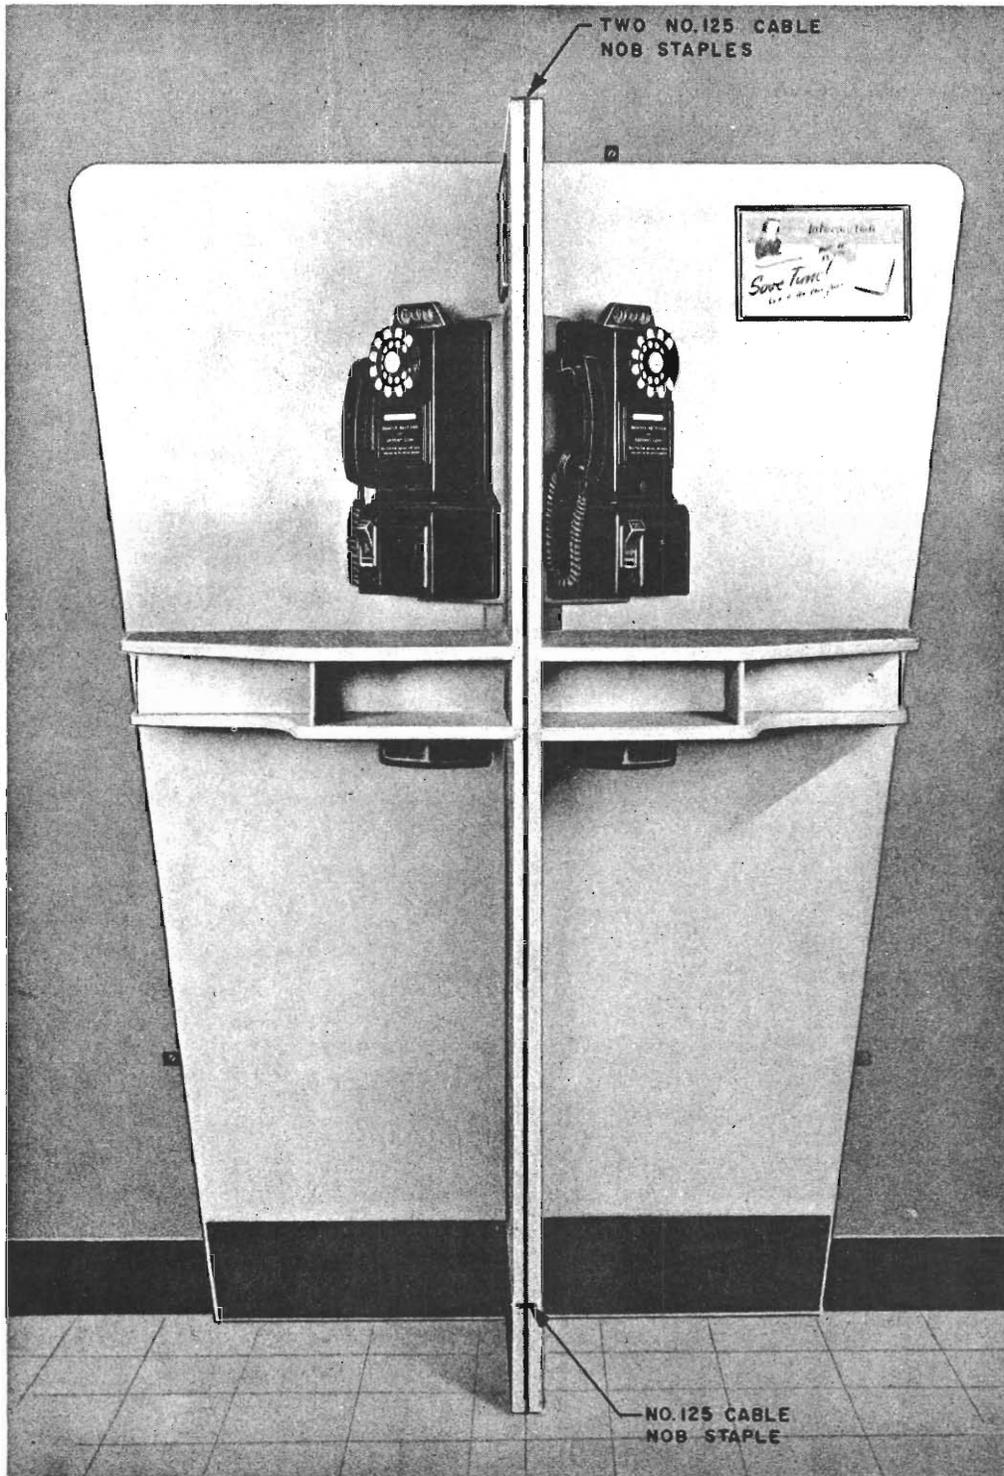

Fig. 4 — Side-to-side Mounted, 20-Type Shelves
- Side-to-side, Fig. 4.
- **Side-to-side, outside corner, or free-standing arrangement**, two staples are fastened at the top and one on the side; see Fig. 4.